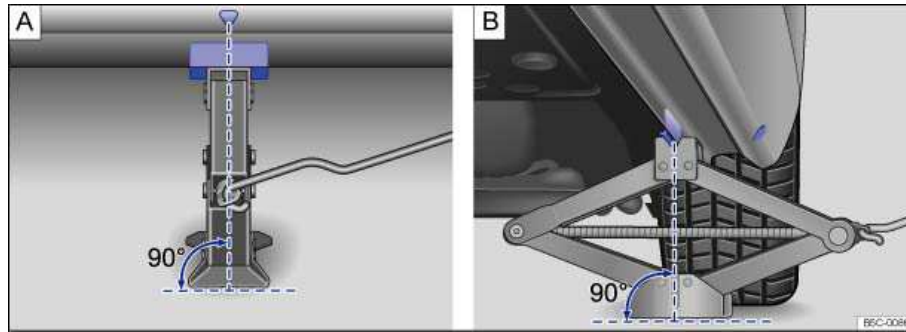

Fig. 175 Jack in position at the left rear lift point.
9. Position the jack so that its base is directly underneath the lift point ⇒ fig. 175, making sure that the entire base of the jack rests securely on the ground.
10. Align the jack and wind up the jack claw at the same time, until the claw cradles the vertical rib underneath the vehicle ⇒ fig. 175 (arrow).
- Position the jack only at the described vehicle lift points. Before you raise your vehicle, always make sure the jack claw properly grips the vertical rib under the sill so that the jack does not slip off when you are raising the vehicle ⇒ fig. 175.